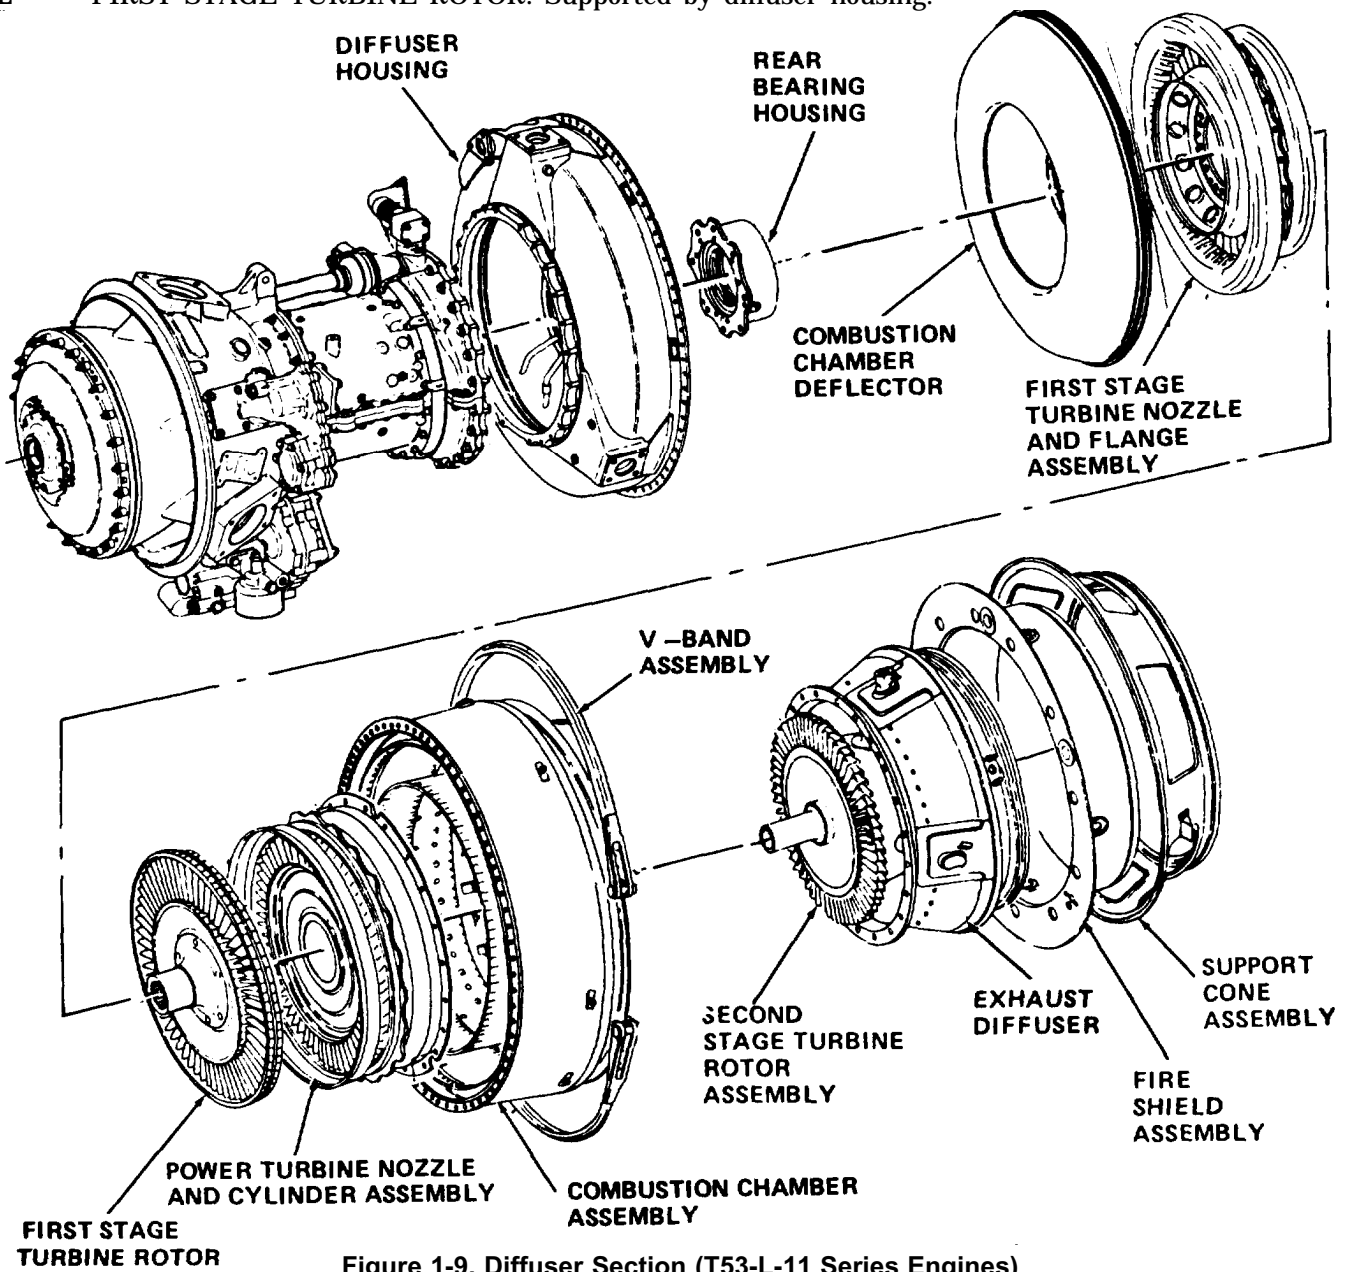

Figure 1-9. Diffuser Section (T53-L-11 Series Engines)
**1-13. Diffuser Section (T53-L-11 Series Engine) (See figure 1-9.)**